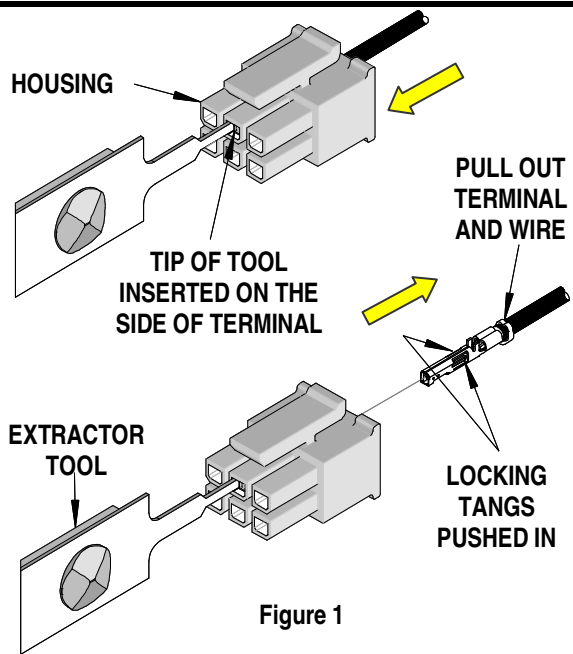

Figure 1
1. Insert the tip of the tool on either side of the terminal until it stops. See Figure 1.